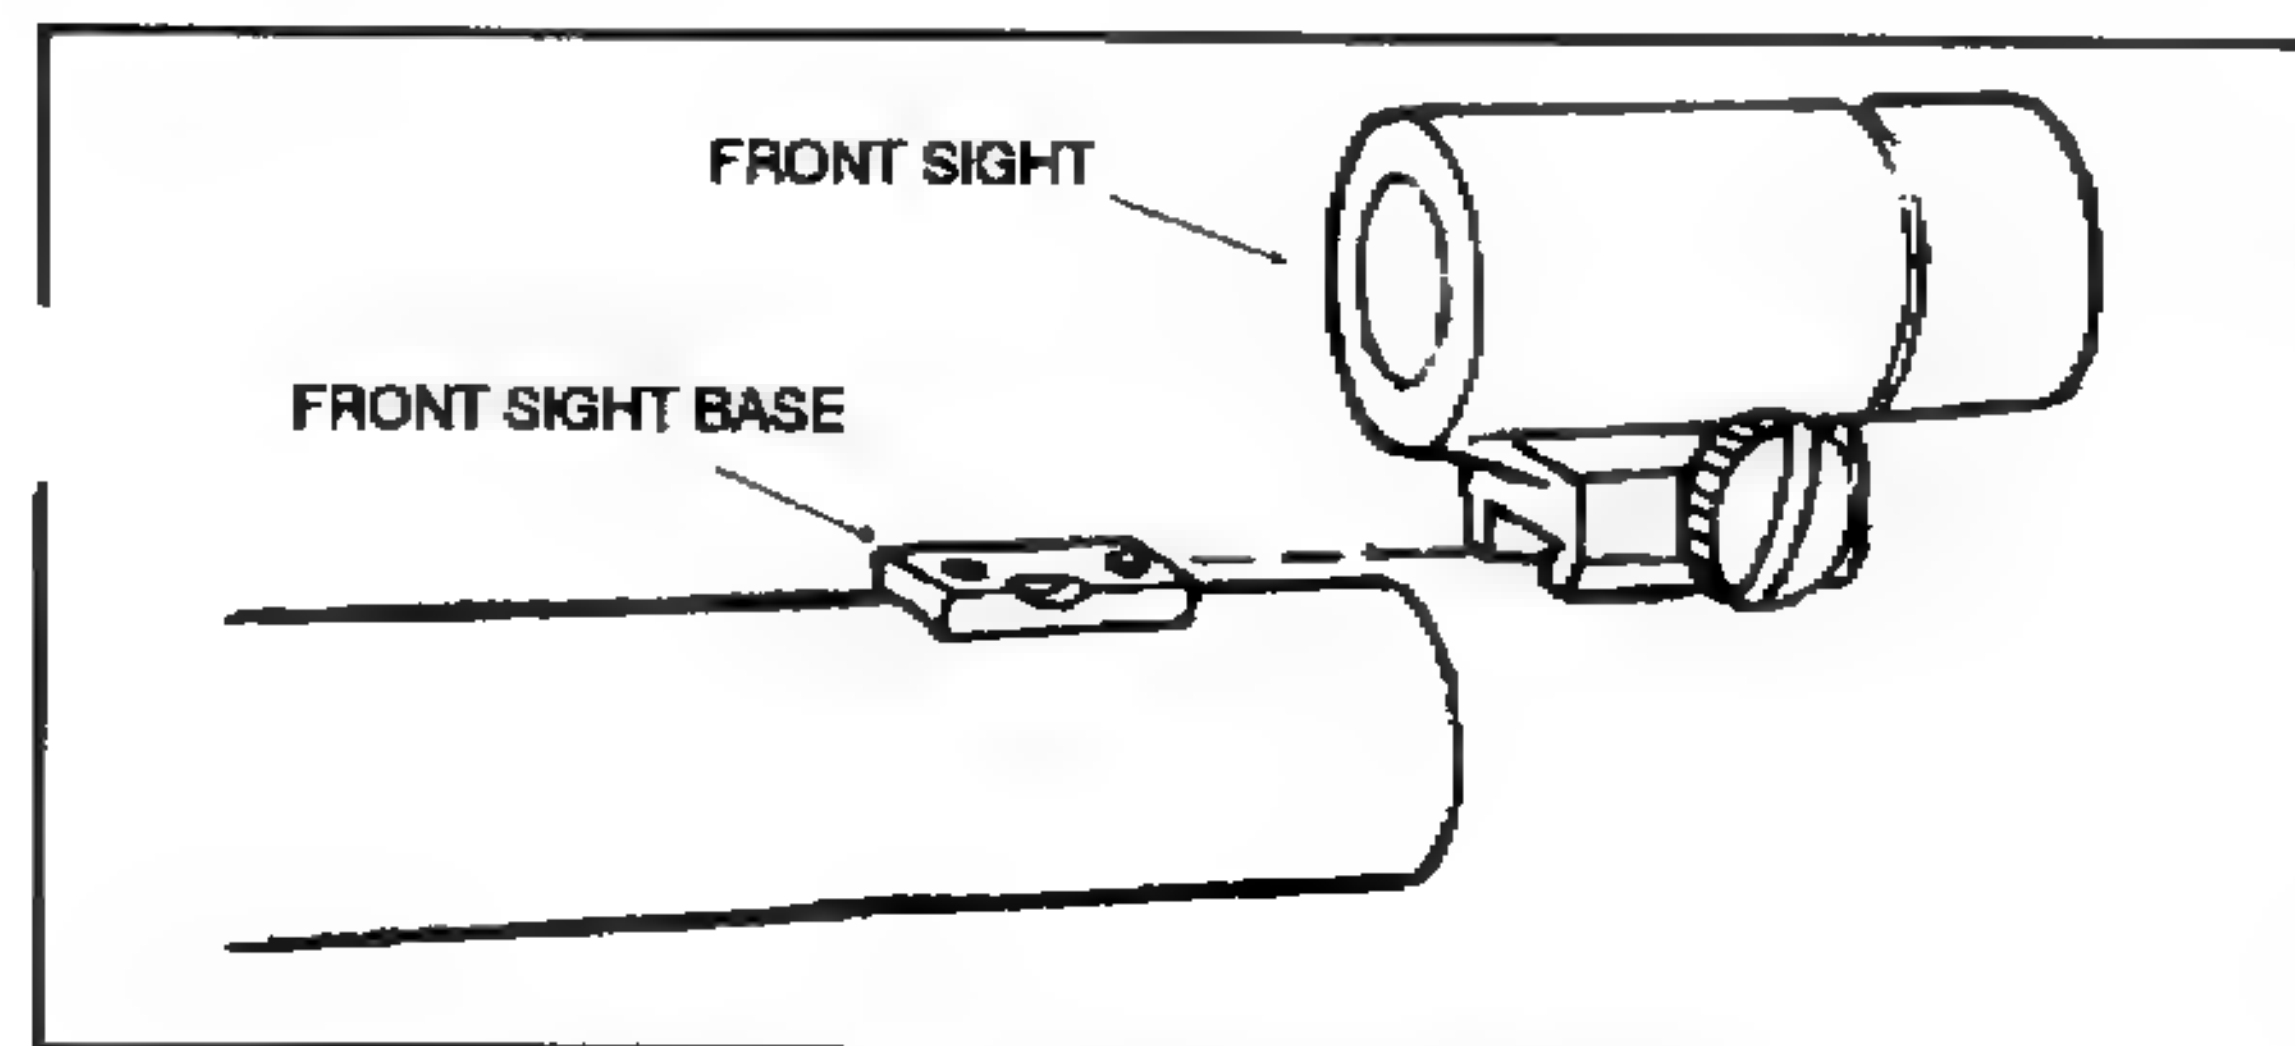

Figure 2-22. Front sight attachment.
(1) Attach the front sight to the barrel, align the front sight and the front sight base, and slide the sight over the base and tighten the screw (Figure 2-22).